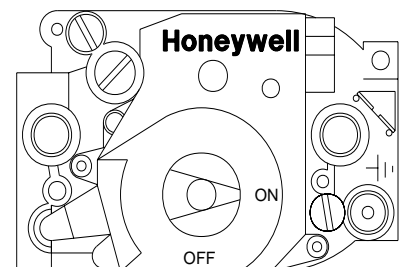

Figure 2. Gas control knob shown in "ON" position.
7. Wait five (5) minutes to clear out any gas. If you then smell gas, **STOP!** Follow "B" in the safety information on page 5. If you don't smell gas, go to the next step.
8. Turn knob on gas control counterclockwise  to "ON"; see Figure 2.